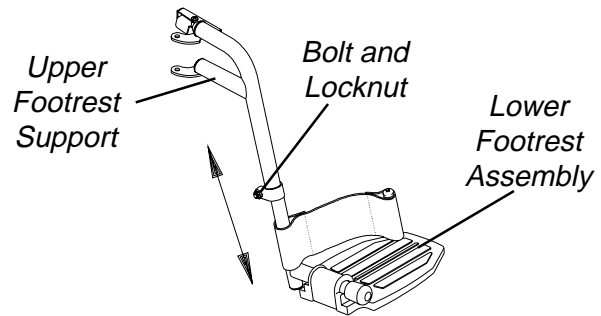

**FIGURE 1 - SWINGAWAY FOOTREST ASSEMBLY INSTALLATION**
**SWINGAWAY FOOTREST ASSEMBLY INSTALLATION (FIGURE 1)**